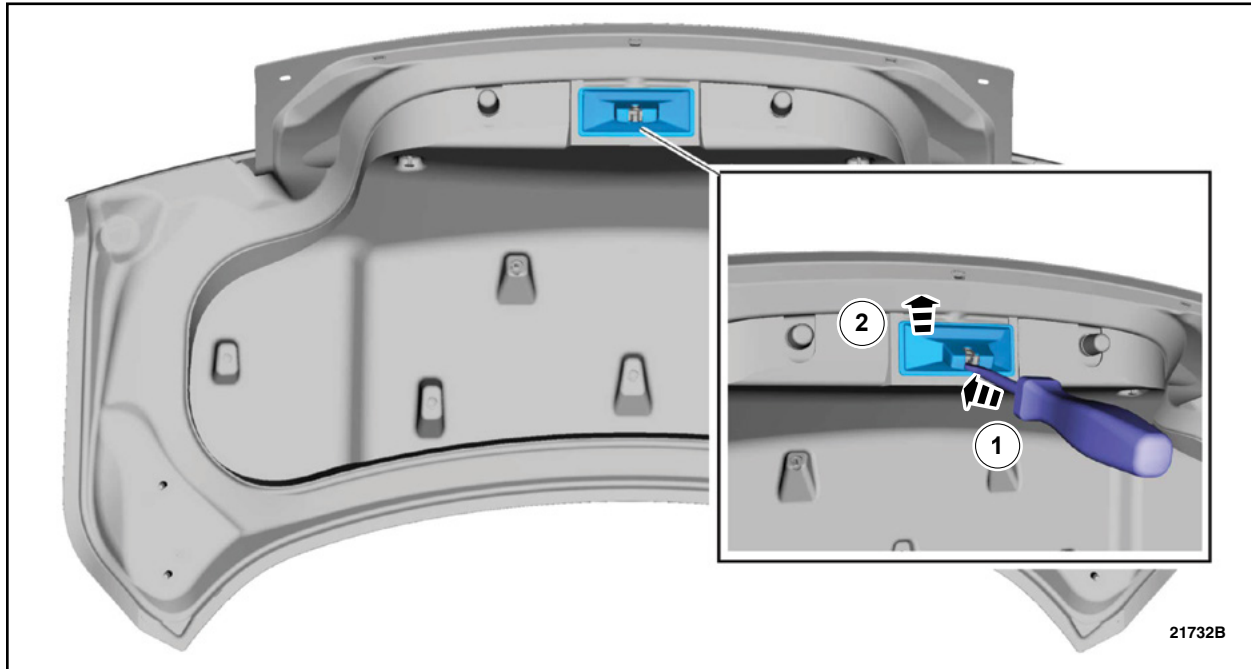

FIGURE 3
6. Remove the luggage compartment lid latch cover. See Figure 3.